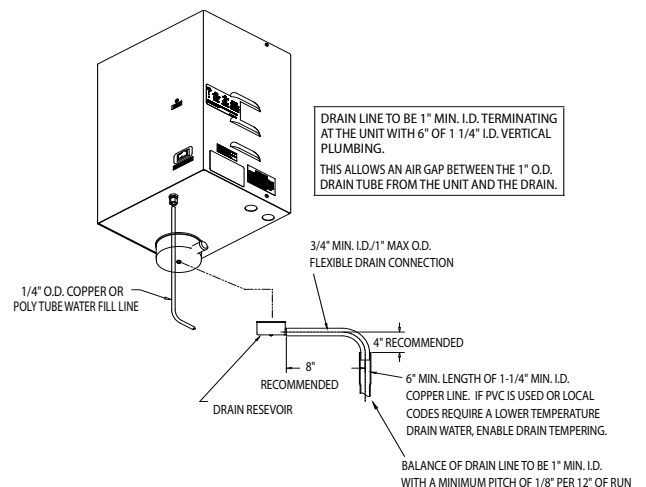

Figure 4
To make the necessary connections for water fill and drain, the following steps are required. (Refer to Figure 4 for locations.)
4. Insert the other end of the tube into a minimum 6" vertical length of the 1-1/4" minimum I.D. drain line. The balance of the drain line should be 1" I.D. minimum with a minimum 1/8" per foot slope. (See Figure 4.)